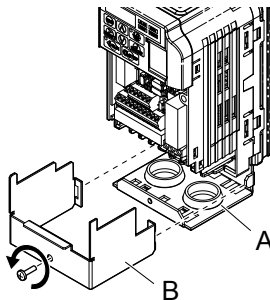

Figure 7.12 Remove the Terminal Cover on a NEMA Type 1 Drive
2. Loosen the screw on the terminal cover (Figure 7.12, B) to remove the terminal cover and expose the conduit bracket (Figure 7.12, A).